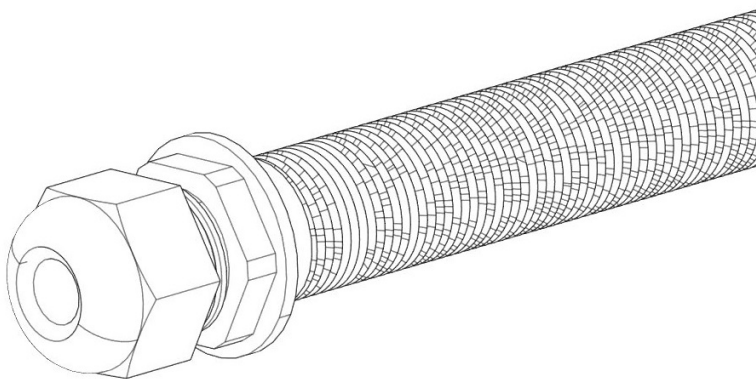

Figure 63 – Cable Gland Installation Inboard of Transom
8. Tighten the Cable Gland around the Actuator Cable on the inboard side of the transom (See Figure 63 – Cable Gland Installation Inboard of Transom). The Cable Gland should be snug to prevent leaking, but do not overtighten. If the Cable Gland was not selected, apply marine adhesive sealant to the cable sheath and cable hole to seal the penetration from outside the hull.
9. Place the Outer Cable Guide over the Inner Cable Guide. Mark the location of the six (6) mounting screw holes. Drill 3/32 (2.4 mm) pilot holes in these six (6) locations.
10. Inject sealant into the pilot holes for the mounting screws for the Outer Cable Guide. Using a Phillips head screwdriver, install the six (6) mounting screws into the hull and hand-tighten.